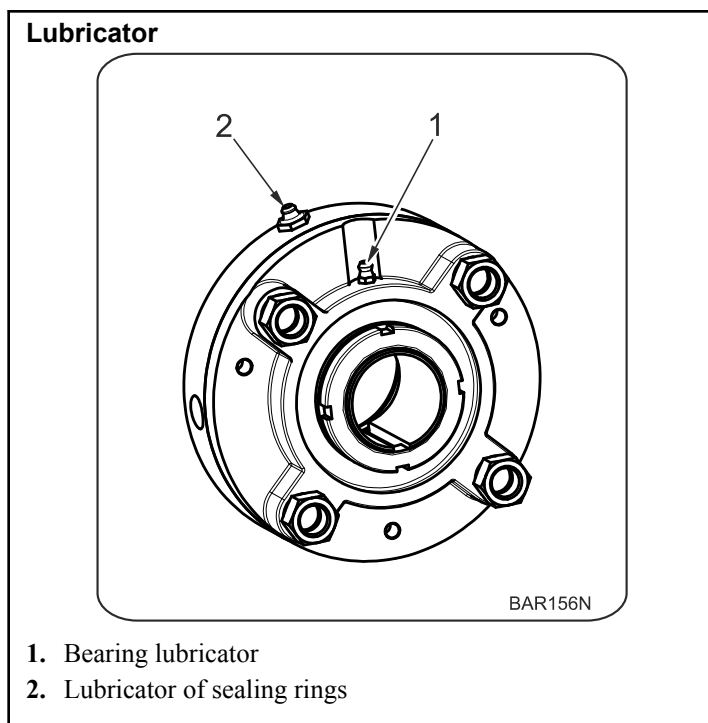

Figure 57
- On request - location of lubrication points is under the covers on the left and right side of the machine. Refer to *Figure 57*.